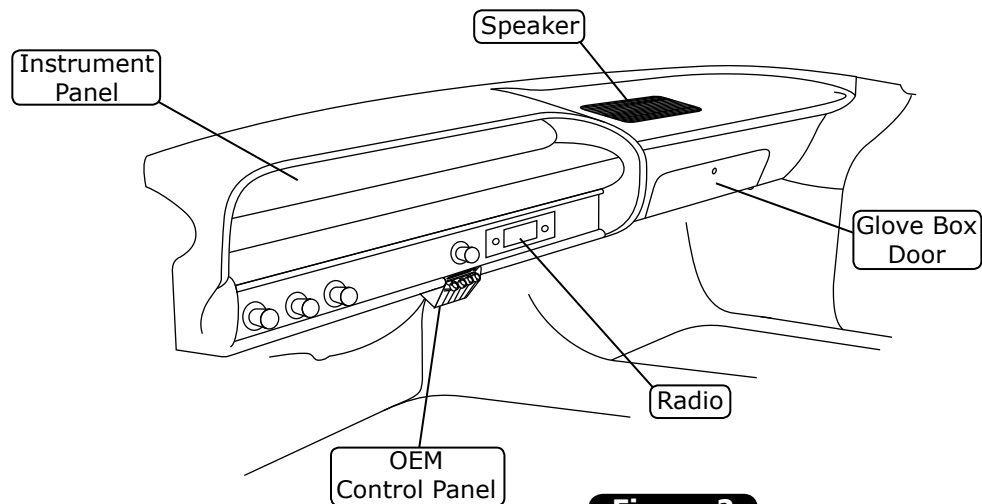

Figure 2
1. Remove instrument panel (See Figure 2, below).
2. Remove the OEM control panel assembly (See Figure 2, below).